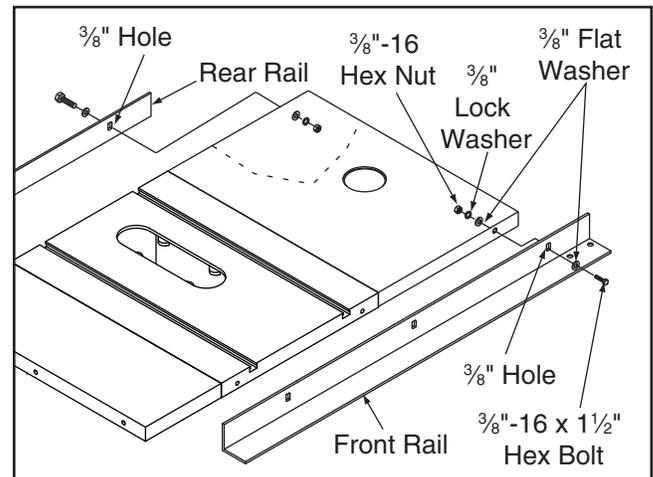

Figure 8. Example of mounting router table to rails.
- Use (2) 3/8"-16 x 1 1/2" hex bolts, (2) 3/8" lock washers, (4) 3/8" flat washers, and (2) 3/8"-16 hex nuts to secure router table to front/rear fence rails, as shown in **Figure 8**.
Note: If rails do not have mounting holes to accommodate router table, you may need to drill holes in fence rails to allow router table to be fastened, as shown in **Figure 8**.